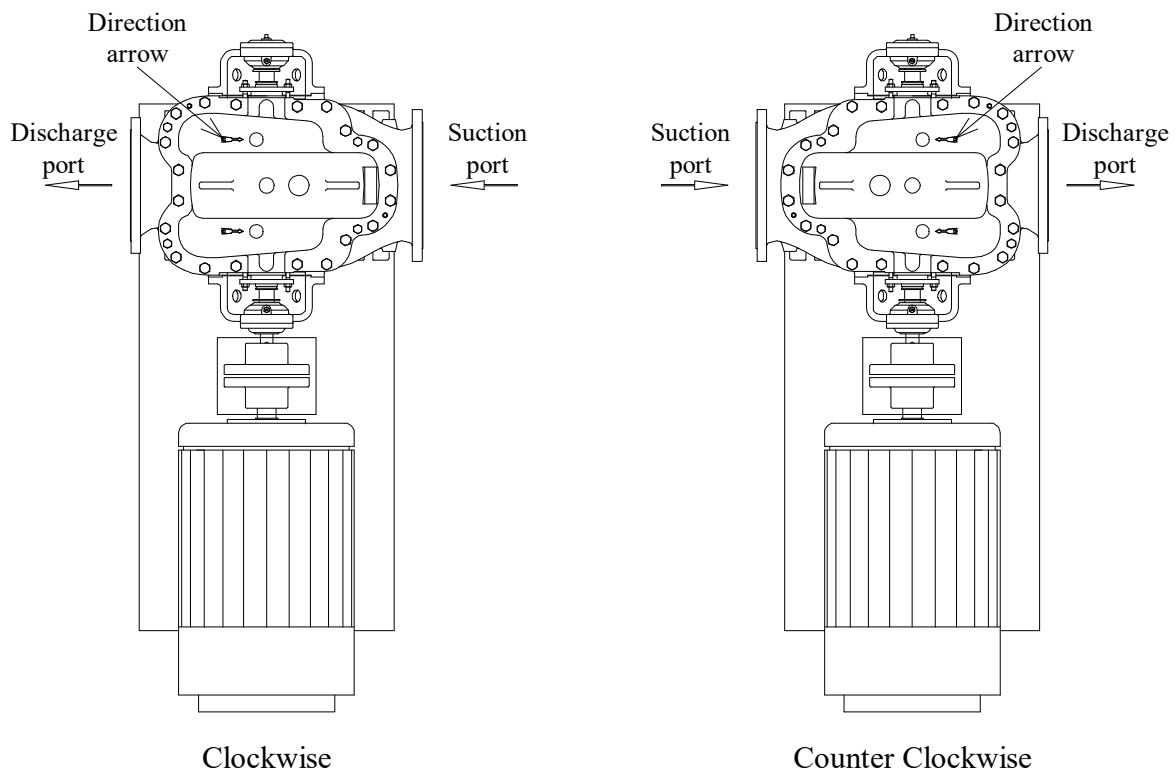

Fig.4-1 Direction of rotation
- Confirm the direction of the rotation by starting the driver after removing the coupling bolts. The pump is right rotation from the driver (CW : Clockwise) if there is a suction port in the right from the driver, but if there is opposite side, the pump is left rotation from the driver (CCW : Counter-Clockwise) (Fig.4-1). The direction arrow is cast on the pump casing upper half (1021).